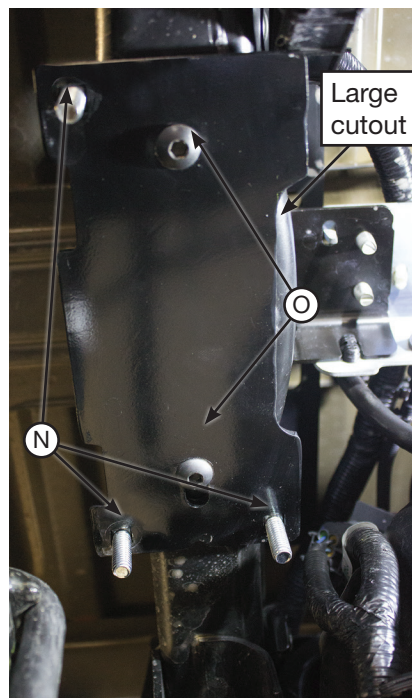

fig. D.3
2. Remove the clip-in studs by prying on the hinged end with a screwdriver to release. Pull all four out of the frame (Fig. D.3).